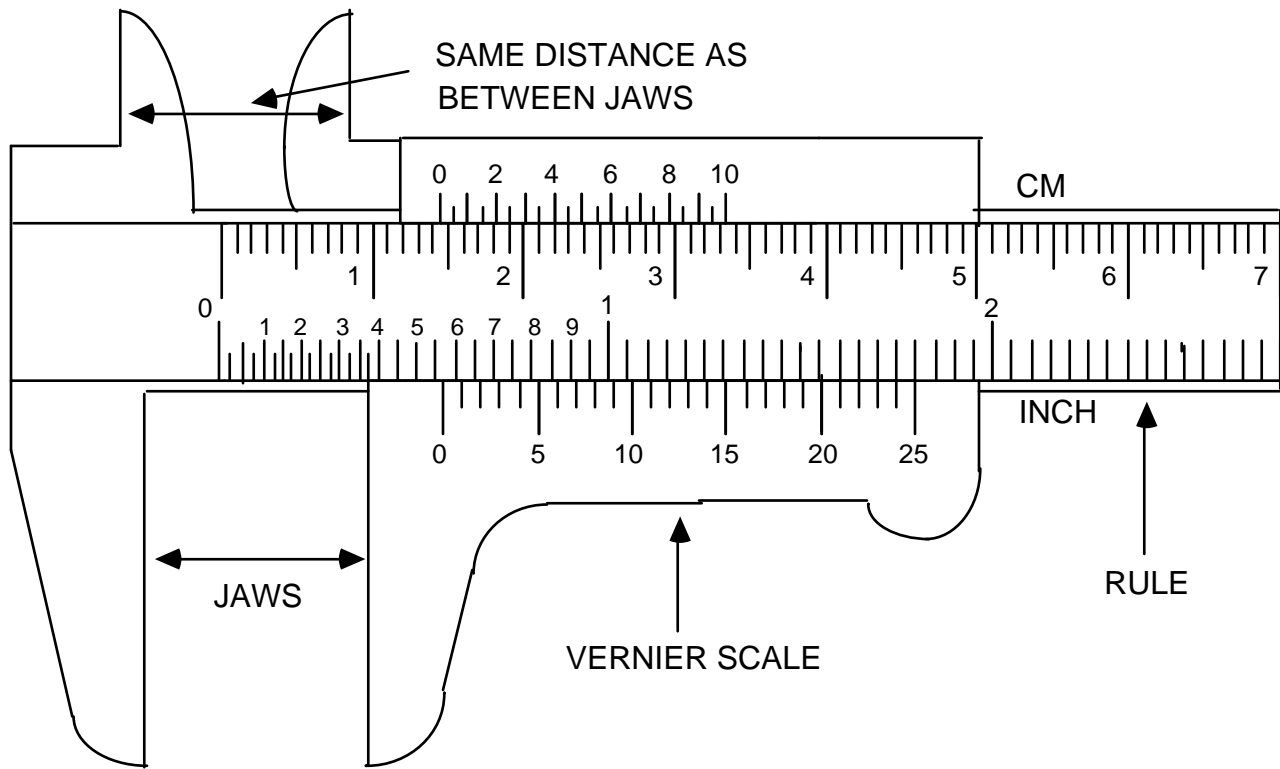

Figure 1: Vernier Caliper
Looking at the vernier caliper in Fig. 1, notice that while the units on the rule portion are similar to those on an ordinary metric ruler, the gradations on the vernier scale are slightly different. The number of vernier gradations is always one more than the number on rule for the same distance. The line on the vernier which is aligned with one on the rule tells us the fraction of the units on the rule.
- (1) Roll the thumb wheel until the jaws are completely closed (touching each other). Now check whether the caliper is reading exactly zero. If not, record the caliper reading, and subtract this number from each measurement you make with the caliper.
- (2) Use either the inside edges of the jaws, or the outside edges of the two prongs at the top of the caliper to make your measurement. Do not use the tips of the prongs. Roll the thumb wheel until these surfaces line up with the end points of the distance you are measuring.
- (3) To read the caliper:
- (a) record the numbers which correspond to the last line on the rule which falls before the index line (marked as 0) on the vernier scale. In Fig 1, this would be 1.4 cm since the index line falls after the 1.4 cm line and before the 1.5 cm line.
- (b) count to the right on the vernier scale until you reach a vernier line which lines up with a line on the rule and record the number of this vernier line as your last digit. In Fig 1, it is the vernier line marked 4 (rather than the 4.5 line, say) which is aligned with one on the rule. The full vernier scale corresponds to one small division on the main scale, that is, $.1 \text{ mm}$, so the vernier tells us to add $.4 * .1 = .04 \text{ cm}$, so the whole distance is 1.440 cm .
Alas, the inch scale vernier of Fig 1 is not marked correctly; the correct corresponding reading would be $.567 \text{ inches}$, so the inch vernier should have lined up at about 17 instead of 25: $.55 \text{ inches} + .017 \text{ inches}$).